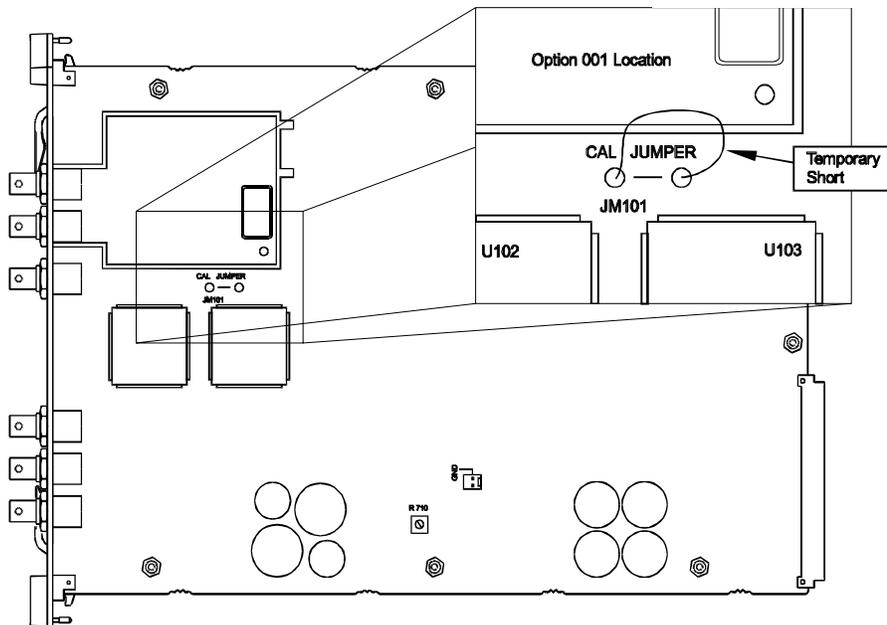

Figure D-1. Unsecuring the Agilent E1441A (without security code)
5. Apply a short between the two exposed metal pads on JM101 (located near U106 and U205) Figure D-1.